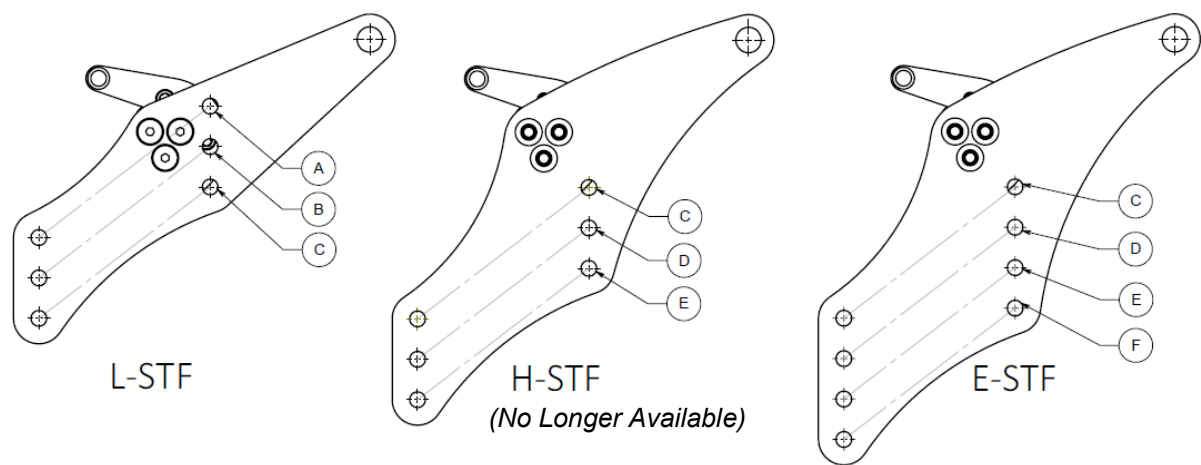

Figure 15.8: Bentley Wheelchair Positions
- 4. Reposition the sub frame onto the lower frame. There are multiple seat height options for each chair. Refer to Figure 15.8 , Table 15.1 and Table 15.2. Once the holes on the sub frame, lower frame, and shim are lined up, insert the lower seat height bolt on each side of the frame. This will help with the alignment of the frames. Then refit the upper seat height bolt.